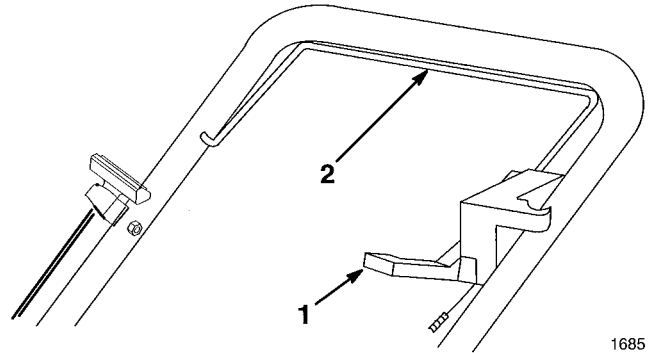

Figure 9
2. SELF-PROPELLED MODELS ONLY—Move traction control lever forward (toward engine) (Fig. 9).
- Move traction control lever forward (toward engine) and squeeze control bar until it contacts handle (Fig. 9).